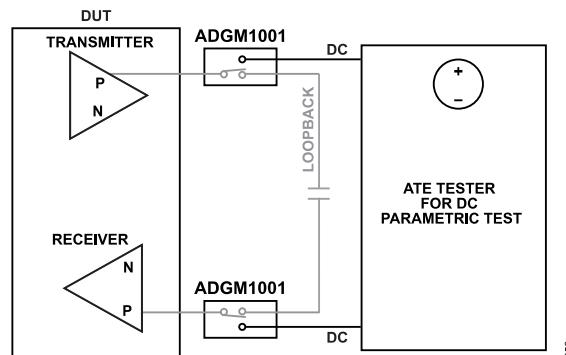

Figure 58. ADGM1001 Enabling Both High Speed Digital and DC Testing (Highlighting P Channel Only)
0.90 mm LGA package as shown in Figure 58. The MEMS switch also enables communication from the tester to the device under test (DUT). The ADGM1001 provides excellent performance from dc to 34 GHz, which allows the switch to handle both high speed signals up to 64 Gbps and precision dc signals.